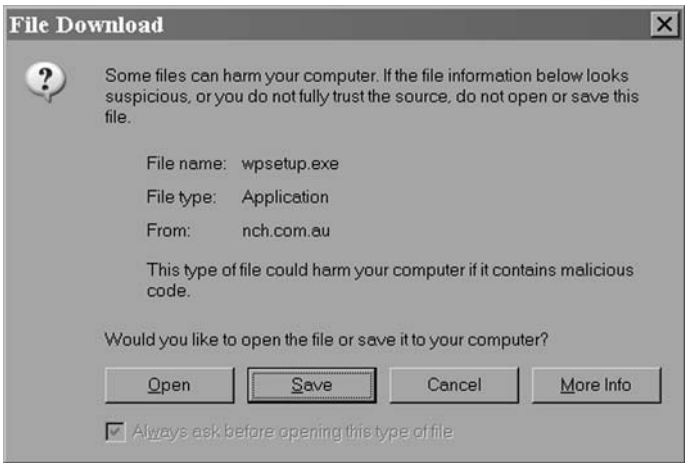

Figure 11.1 The File Download warning – always opt to save the downloaded file so that you can check it for a virus
- Another point here is that you should never download software that will run without further intervention from you, unless it is an upgrade to Windows that comes directly from Microsoft. When you download a program, Windows always gives you the option, Figure 11.1, of running the program directly or saving it to a file. Always save the program to a file, either on your hard drive or on a separate drive (such as a CD-R disc) if possible. It's then easy to use virus scanning software to check that the program will not be a virus risk.